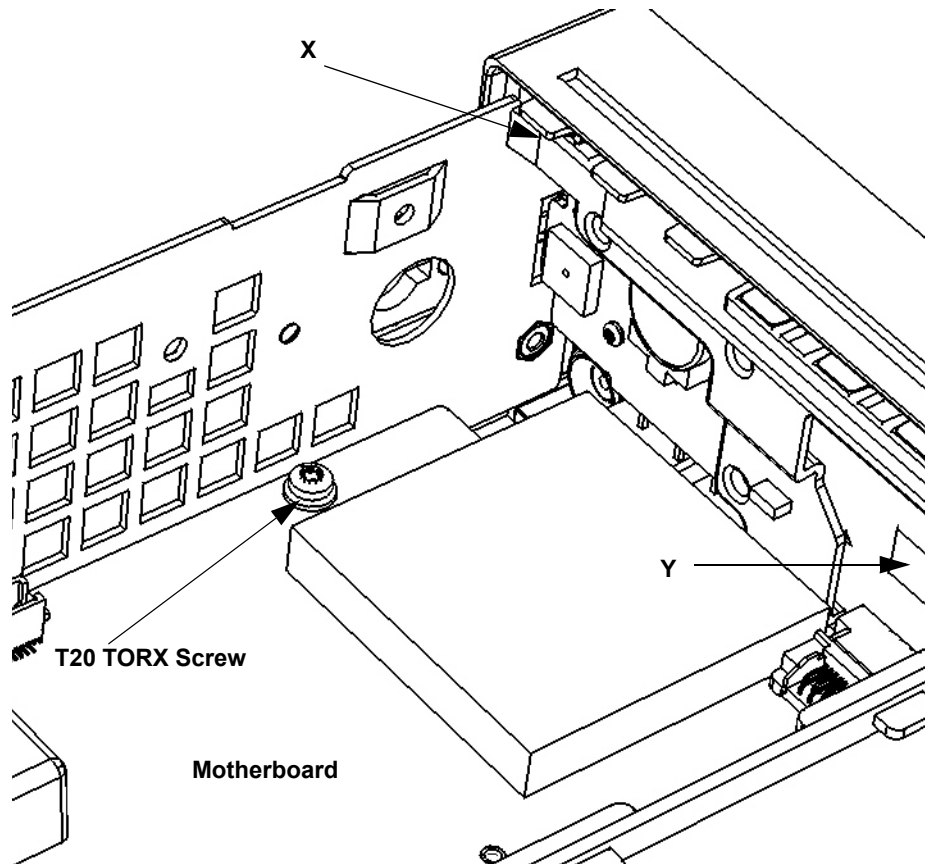

Figure 4-18. T20 TORX Screw on Motherboard
- 5 Turn the counter chassis upright and position the counter as shown in Figure 4-18.
- 6 Remove the T20 TORX screw on the front left-hand side of the motherboard as shown in Figure 4-18.
- 7 With your right hand, press in on the plastic tab (X on Figure 4-18) at the top left front of the front panel, while at the same time, use your left hand to press in on the front of the left-hand aluminum chassis side-panel, so that the front of the side-panel overlaps the depressed tab and keeps it depressed.
- 8 On the middle front right-hand side of the front panel, pull the plastic tab (Y on Figure 4-18) carefully toward the rear of the chassis and simultaneously press in the right side panel of the aluminum chassis until the front panel is partially released.